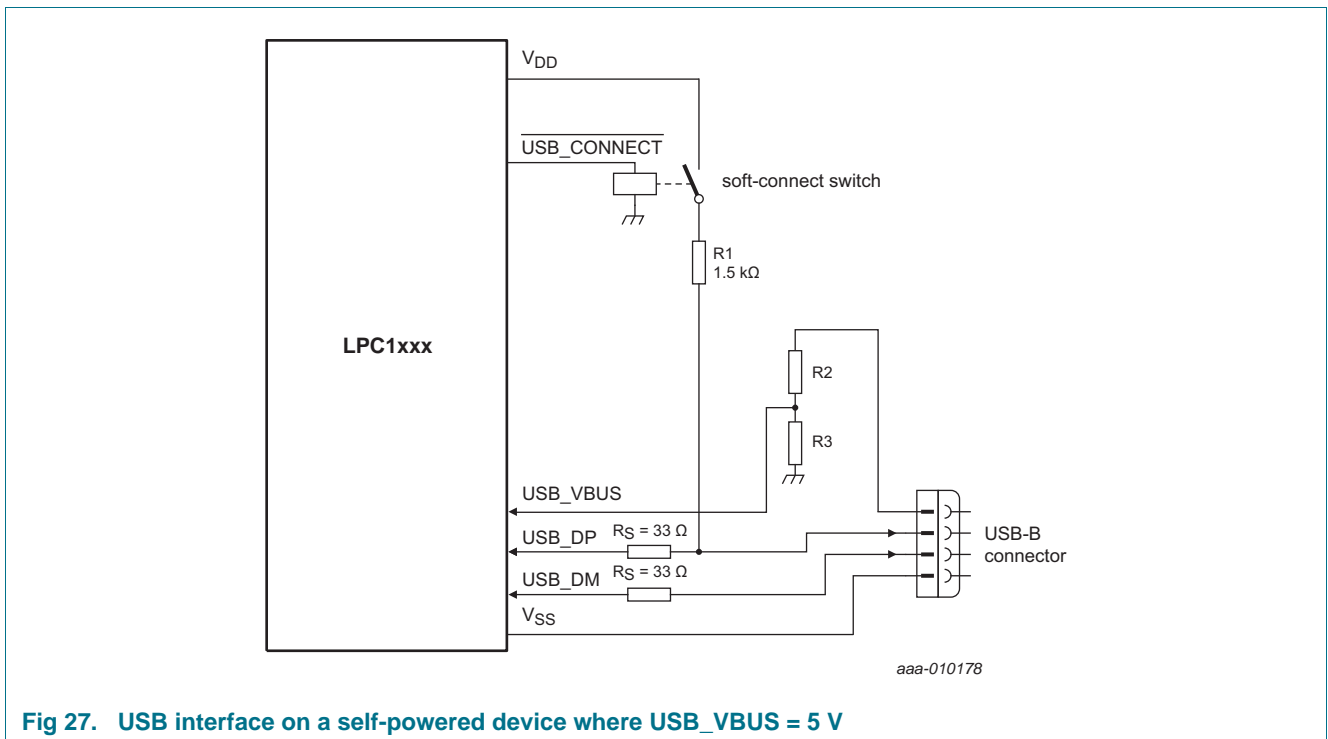
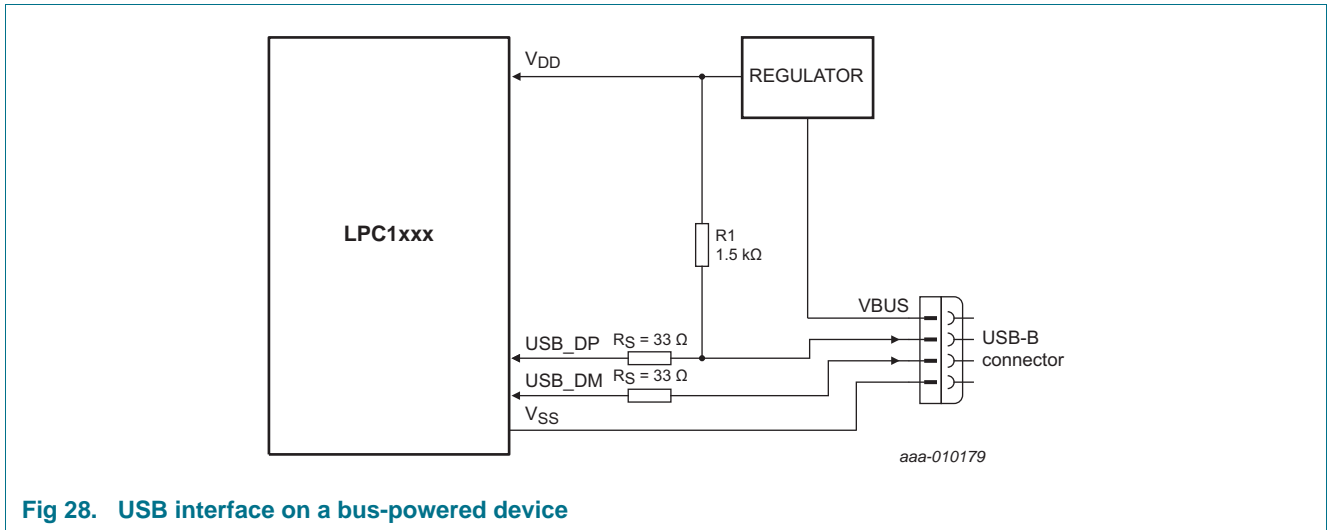

Fig 27. USB interface on a self-powered device where USB\_VBUS = 5 V
Fig 28. USB interface on a bus-powered device
The USB device can be connected to the USB as self-powered device (see Figure 27) or bus-powered device (see Figure 28).
For a bus-powered device, the VBUS signal does not need to be connected to the USB\_VBUS pin (see Figure 28). The USB\_CONNECT function can additionally be connected as shown in Figure 27 to prevent the USB from timing out when there is a significant delay between power-up and handling USB traffic.
**Remark:** When a bus-powered circuit as shown in Figure 28 is used, configure the PIO0\_3/USB\_VBUS pin for GPIO (PIO0\_3) in the IOCON block to ensure that the USB\_CONNECT signal can still be controlled by software. For details on the soft-connect feature, see the LPC11U2x user manual (Ref. 1).